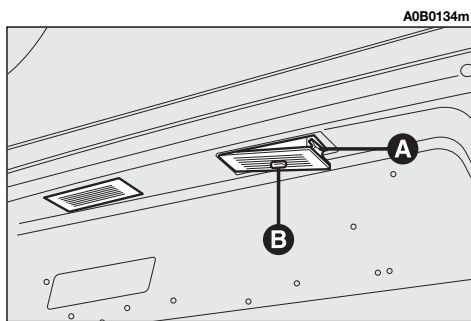

fig. 54
- Remove the number plate light unit using a flat-tipped screwdriver protected by a soft cloth on the catch (**A-fig. 54**).
- Remove the unit (**B-fig. 54**).
- Refit the complete unit (**B-fig. 54**) firstly inserting the catches and then pressing in correspondence with the stopper (**A-fig. 54**).